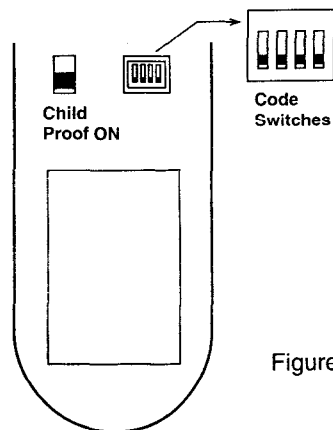

Figure 7
2. Slide the CHILD-PROOF switch to position marked C/P to activate the CHILD-PROOF function. “\*Child-Proof\*” will appear on the LCD. See Fig 7.
nearby. See Figure 7.